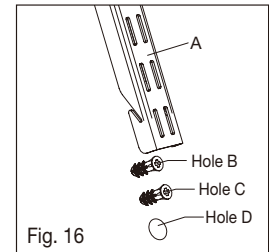

Fig. 16
- Drill 1/4 in. holes for hole B and C, drill 1/2 in. hole for hole D. Insert wall anchors (1/4 in.) into hole B and C (see Fig. 16).